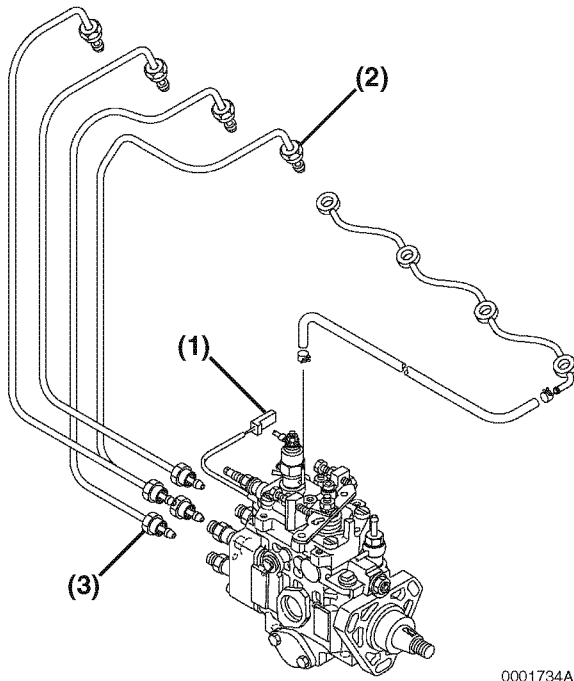

Figure 7-55
- Tighten the high pressure fuel line nuts (**Figure 7-55, (2)**) on the fuel injection pump.
- Tighten the high pressure fuel line nuts (**Figure 7-55, (1)**) on the fuel injectors.
12. Reconnect the electrical connection to the magnetic valve (stop solenoid) (**Figure 7-55, (1)**).